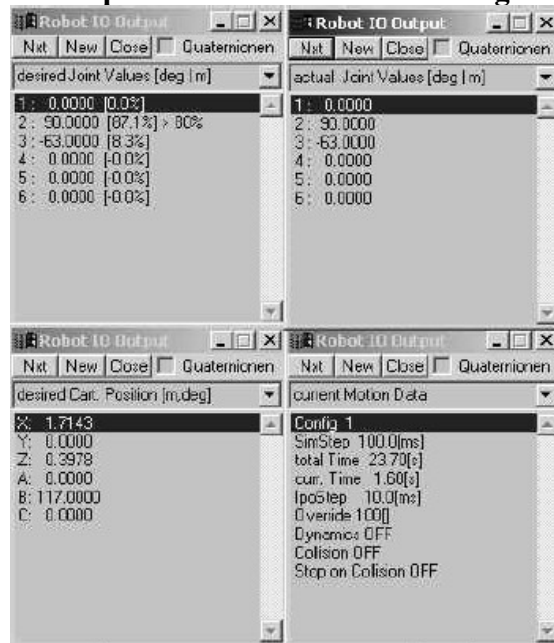

Fig. 2.13 Windows of IO output to trace program execution
- in monitoring physical values layer, using IO Output Window: „Simulate\Online output Data”. Four selected IO Output windows are shown in Fig. 2.13.